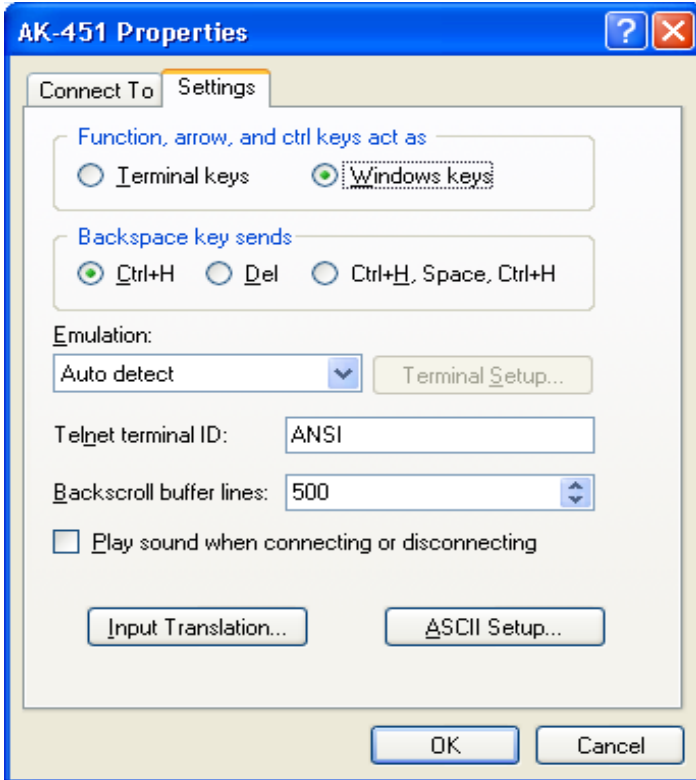

Figure 13: Verify parameter setting
- Verify the following setting (See Figure 13.) From the Hyper Terminal window (or equivalent RS-232 window), Click File -> Properties -> Settings tab. Click OK to go back to Hyper Terminal window.